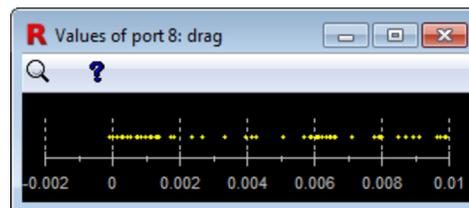

Figure 5.2: The values assumed by port “drag”. You may zoom in by clicking in the body of the dialog. Clicking the button in the tool bar zooms to fit.
2. Open a *distribution scope* to display the distribution of values the selected port assumes in the test suite, as shown in Figure 5.2. Alternatively, it is possible to view the values assumed during a single test or group of tests, rather than during the entire test suite. This may be done by right-clicking on the selected port or by using the relevant items in the **View** menu; see Section 5.2 for details. The button is disabled when a filter is active.
Open Distribution Scope (Whole Suite). For the currently selected port, open a distribution scope to display (as shown in Figure 5.2) the values the port assumes when executing the test suite.